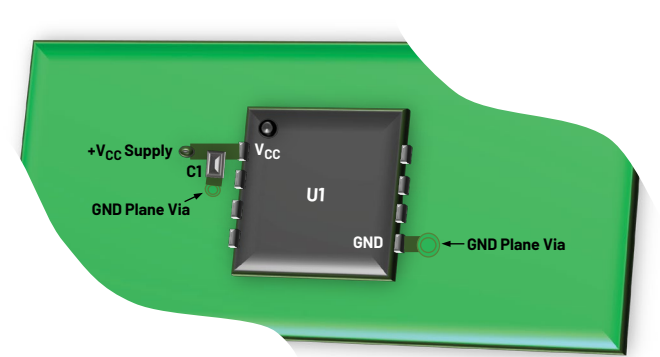

Figure 2. A decoupling technique for power supply pins.
- ▶ For easier implementation, decoupling capacitors can be linked through a T-type connection to the ground plane using vias near the GND pin of the component rather than creating a trace. See the sample in Figure 2.